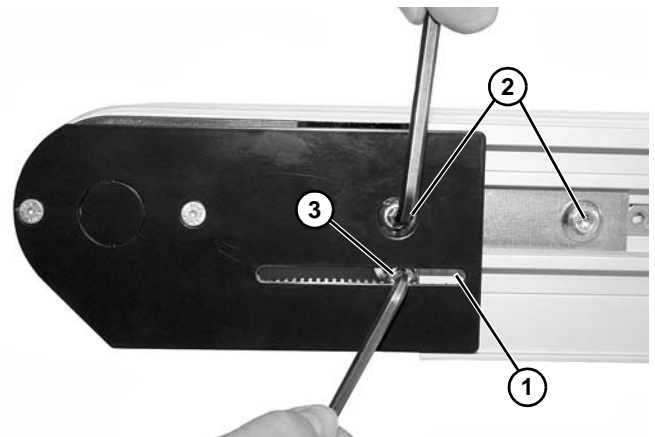

Figure 63
1. On tension end of the conveyor, identified by the pinion access slot (**Figure 63, item 1**), loosen the two tail clamp bolts (**Figure 63, item 2**), on both sides of conveyor.
2. Rotate the pinion (**Figure 63, item 3**) to extend head plate assembly.
- After adjusting proper tensioning, tighten tail clamp bolts (**Figure 63, item 2**) on both sides of conveyor to 146 in-lb (16.5 N-m).